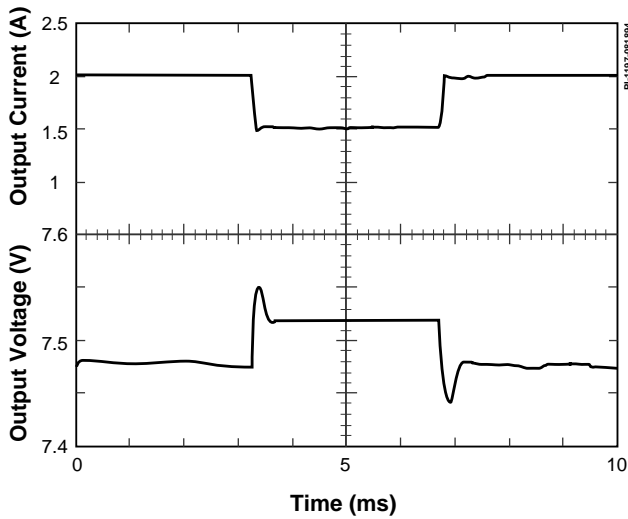

Figure 7. Transient Response.
1.5 to 2 A is shown in Figure 7. Note that the response is quick and well damped.